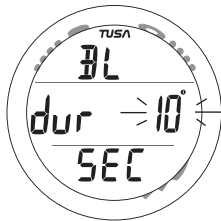

Fig. 54 - SET BACKLIGHT DURATION
**SET BACKLIGHT DURATION**, information includes (Fig. 54):